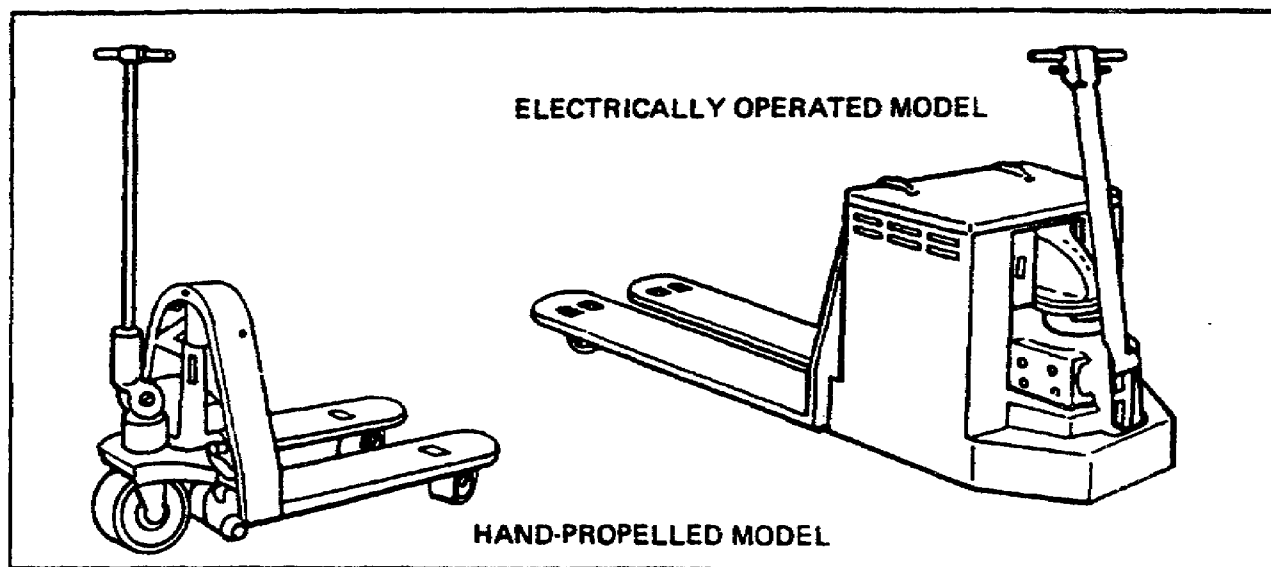

Figure 1-2. Pallet Trucks.
**Pallet Trucks.** Pallet trucks (figure 1-2) are used to move palletized ammunition and large, heavy guided missiles or nuclear special weapons containers on the floor of a magazine, workshop, or railroad car. Two types of pallet trucks are available, the manually powered and the electrically powered. Each type has a load capacity of 4,000 pounds, and each type is steered manually.